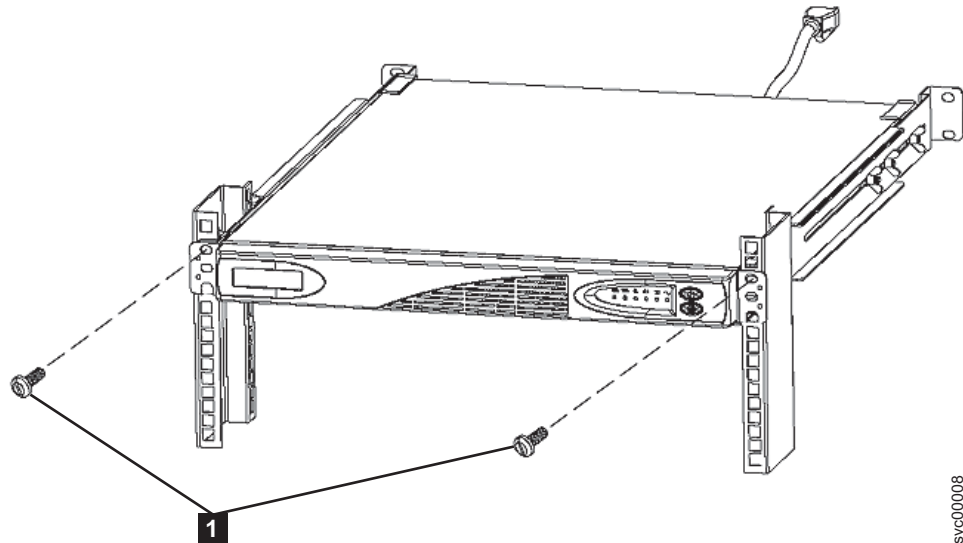

Figure 120. Removing the mounting screws from the 2145-1U uninterruptible power supply
9. At the front of the 2145 UPS-1U, unscrew the two mounting screws. See **1** in Figure 120.